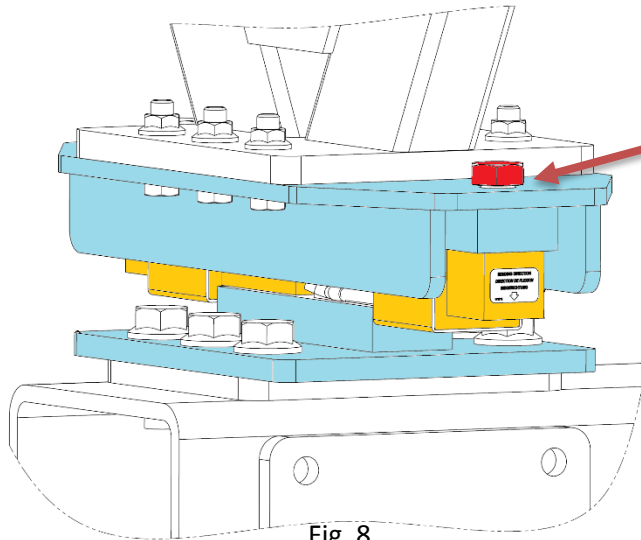

Fig. 8
11. Bolt the rear top bracket (408774) to the load cells utilizing the  $\frac{3}{4}$ " x  $2\frac{1}{4}$ " fine thread bolts. Ensure that you leave approximately  $\frac{1}{16}$ " gap between the head of the bolt and the plate. Utilize thread sealant to secure the bolt in place. Refer to figure 8.